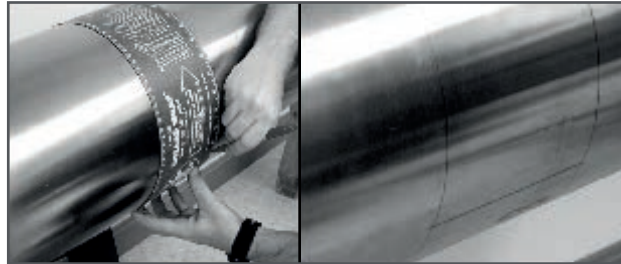

Figure 23: Marking the 3 o'Clock Position
3. Line up the zero scale of the layout tape at the desired location of the first transducer. (For a typical installation, this point will be the 3 o'clock position on a horizontal pipe.) Mark each of the two circumferential lines at the zero point. Connect each of these marks using a straight edge (for example, the edge of the layout tape) as shown in *Figure 23*.